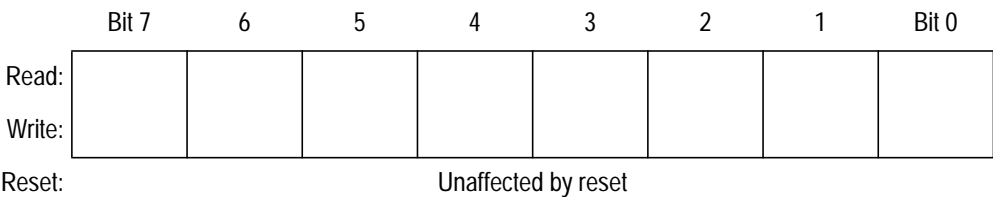

Figure 3-2. Accumulator (A)
The accumulator (A) shown in Figure 3-2 is a general-purpose 8-bit register. The accumulator holds operands and results of arithmetic and non-arithmetic operations.